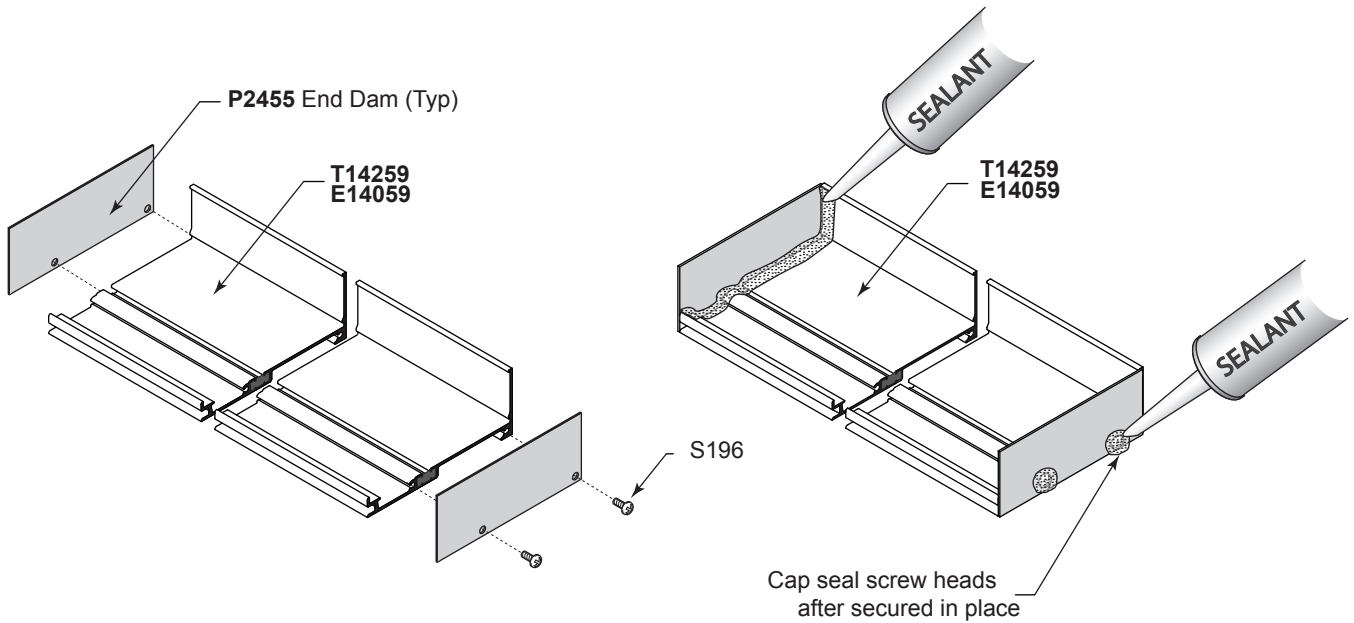
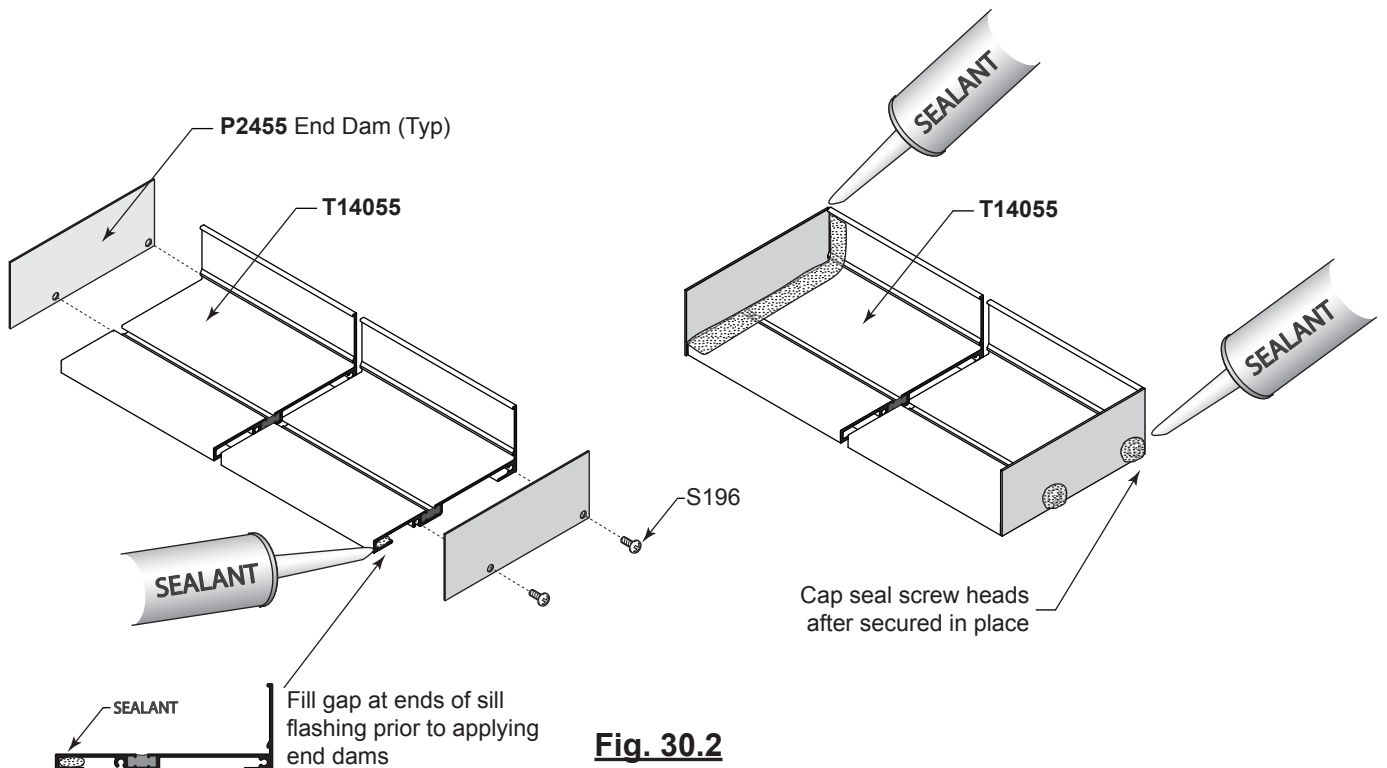

Fig. 30.1
Fig. 30.2
- A. Install P2455 end dam at each end of sill flashing with (2) S196 #8 x 3/8" PH screws. Seal end dam and cap seal fastener heads. Set aside and allow sealant to cure. For T14259 flashing see **Fig. 30.1**. For T14055 flashing see **Fig 30.2**